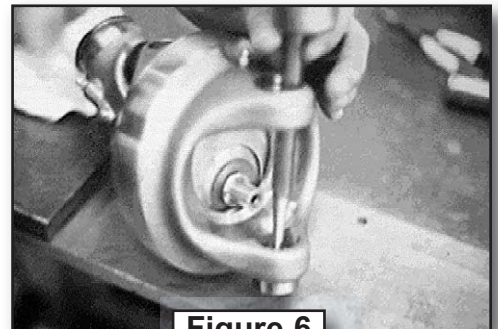

Figure 6
8. Use the hammer and the driver to remove the two bearing cups from the center housing (see Figure 6).